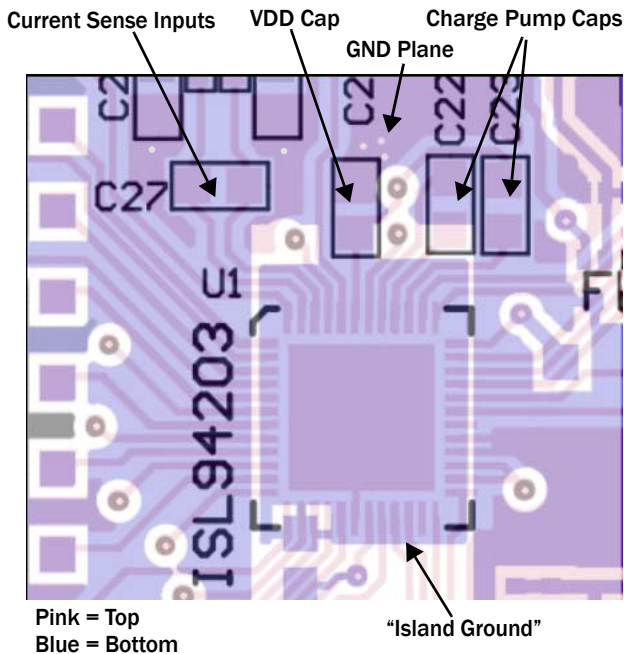

FIGURE 33. EXAMPLE 4-LAYER PCB LAYOUT FOR VDD BYPASS, CHARGE PUMP and CURRENT SENSE.
- An example PCB layout is shown in Figure 33. This shows placement of the VDD bypass capacitor close to the VDD pin and with a good ground connection. The charge pump capacitors are also close to the IC. The current sense lines are shielded by ground plane as much as possible. The ground plane under the IC is shown as an “island”. The intent of this layout was to minimize voltages induced by EMI on the ground plane in the vicinity of the IC. This example assumes a 4-layer board with most signals on the inner layers.